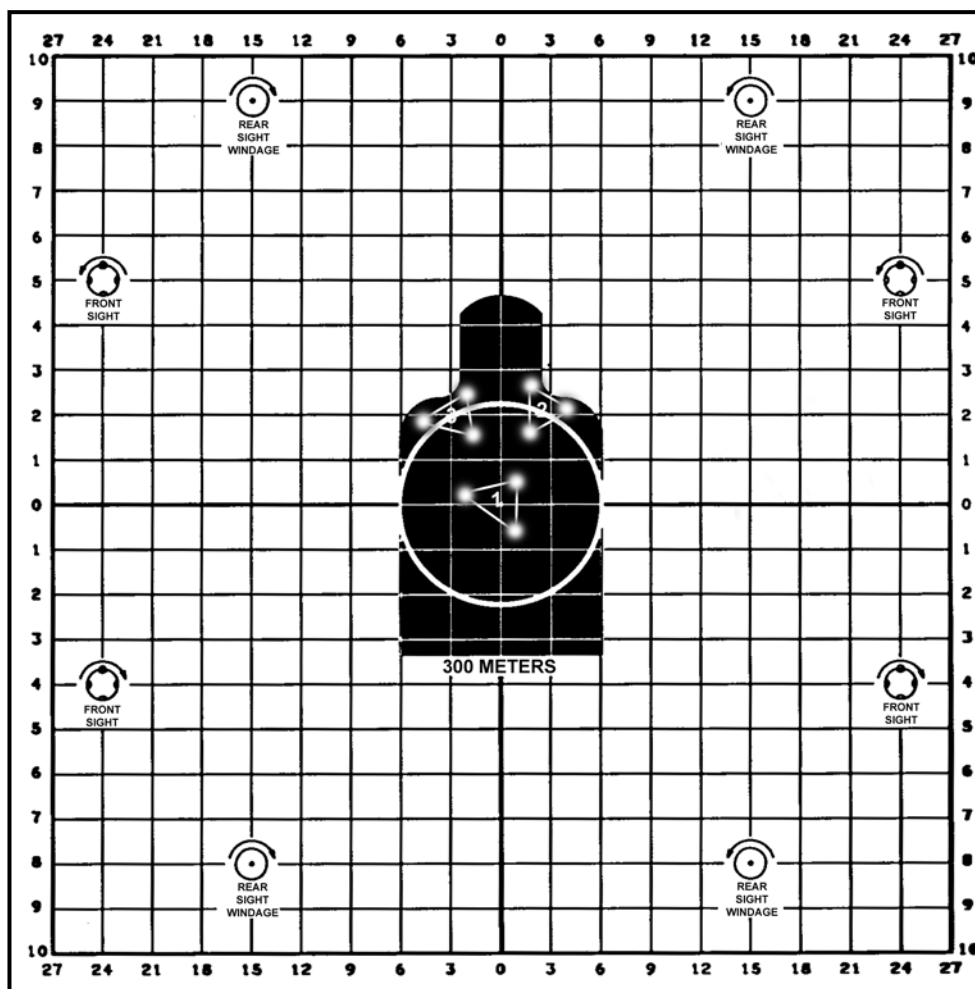

Figure 5-12. Shot groups with inconsistent aiming.
(2) **Shot Groups with Inconsistent Aiming.** The groups in Figure 5-12 indicate that the soldier for each shot group is applying proper firing fundamentals, but is using a different aiming point each time a shot group is fired. The soldier's understanding of the aiming process is questioned, and his position checked for consistency. The instructor-trainer cannot determine which shot group best represents the firer's zero.